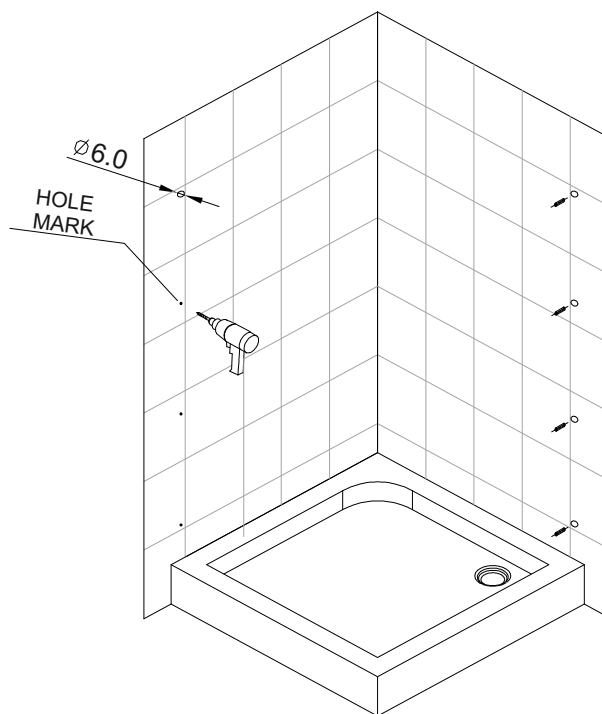

Fig. 2
- 2) Drilling the holes (8- ϕ 6mm) according the mark, insert the 1) plastic plug into the hoes . As Fig.2